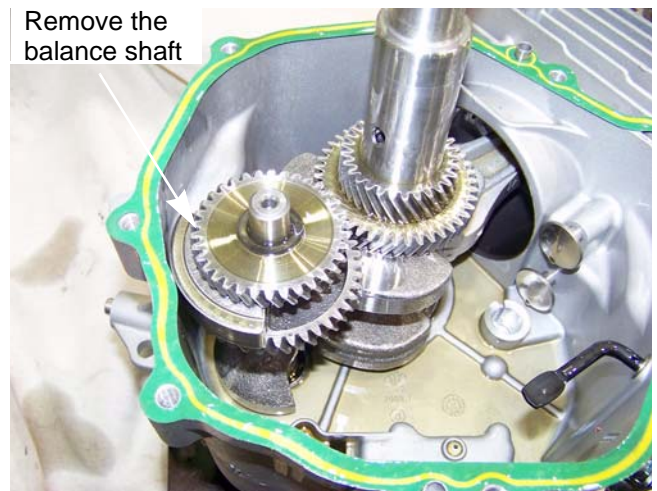

Figure 10.3
13. Remove the balance shaft. See Figure 10.3.